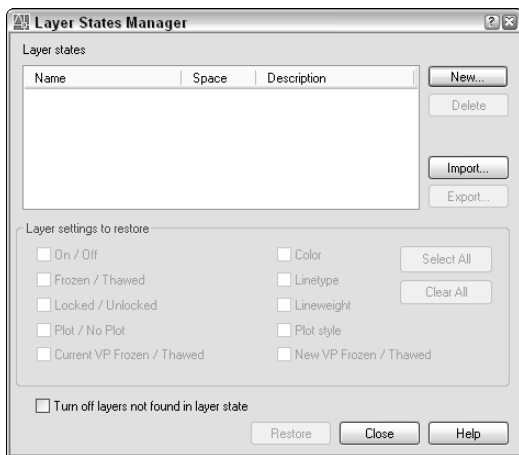

Figure 11-11: The Layer States Manager dialog box.
3.  In the Layer Properties Manager, click the Layer States Manager icon to open the Layer States Manager dialog box, shown in Figure 11-11.